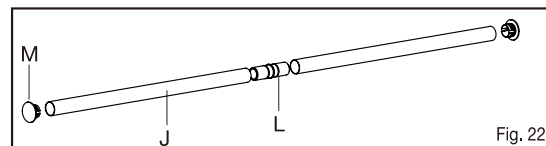

Fig. 22
- ☐ Measure length of closet rod assembly needed based on your closet layout. If your layout requires multiple closet rods to be joined, install closet rod joiner (L) to make a longer assembly (see Fig. 22).
- ☐ If joiner is needed for your layout, insert closet rod joiner (L) into one end of one closet rod (J) and then insert the exposed end of the joiner into the end of second closet rod (J). Repeat this step for longer assemblies where needed (see Fig. 22).
- ☐ Push end caps (M) into finished ends of closet rod (J) (see Fig. 22).